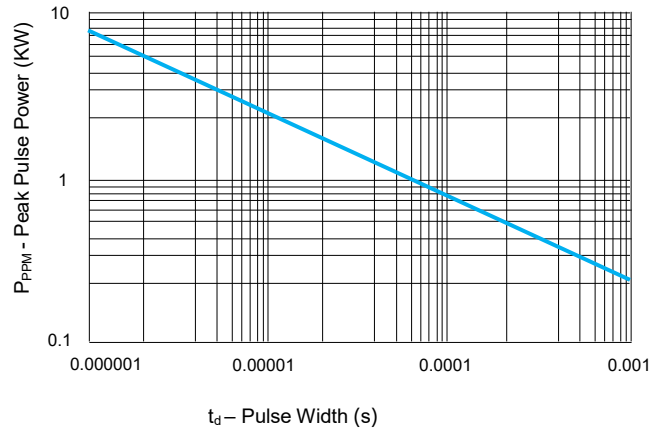

FIGURE 2 Peak Pulse Power Rating Curve
2. Surge current waveform per 10/1000 μ S exponential wave and derated per Fig.2.